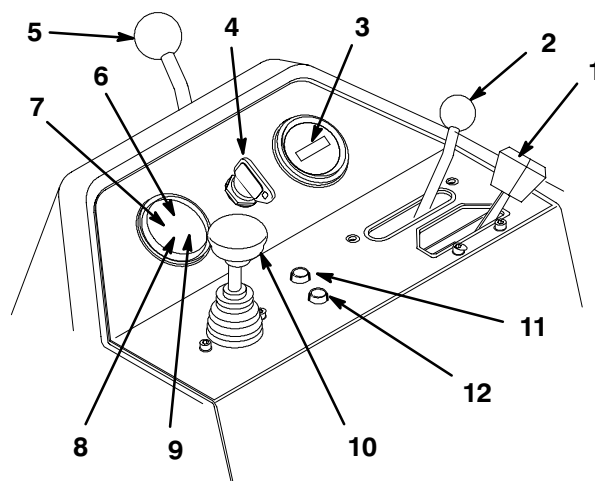

Figure 23
The Throttle Control (Fig. 23) gives the operator the ability to control the speed of the engine. Moving the Throttle Control toward the “FAST” position increases engine RPM; moving Throttle Control toward “SLOW” will decrease engine RPM.
The functional control lever (Fig. 23) provides two (2) traction selections, plus a “NEUTRAL” position. It is permissible to shift from mow to transport or transport to mow (not to neutral) while the machine is in motion. No damage will result.
The hour meter (Fig. 23) indicates the total hours of machine operation. The hour meter starts to function whenever the key switch is rotated to “ON.”
Insert the key into the switch (Fig. 23) and rotate it clockwise as far as possible to the “START” position to start the engine. Release the key as soon as the engine starts; the key will move to the “ON” position. Rotate the key counterclockwise to the “OFF” position to stop the engine.
Rotate the lever (Fig. 23) rearward to loosen adjustment, raise or lower the steering arm for operator comfort, then, rotate the lever forward to tighten adjustment.
The light (Fig. 23) glows and the engine automatically shuts down when the engine coolant temperature gets too high.
The light (Fig. 23) glows when water is detected in fuel.
If the engine kills due to an overheat condition, press the override button (Fig. 23) in and hold it until the machine can be moved to a safe location and allowed to cool down.
When the glow plug indicator light (Fig. 23) is lit, it indicates the glow plugs are on.
The light (Fig. 23) glows if the battery charge is low.
The light (Fig. 23) glows if the engine oil pressure drops below a safe level.
Moving the control (Fig. 23) forward, during operation, lowers the cutting units and starts the reels. Pull back on the control to stop the reels and raise the cutting units. During operation the reels can be stopped by pulling back on the control momentarily and releasing it. Restart the reels by moving the control forward.